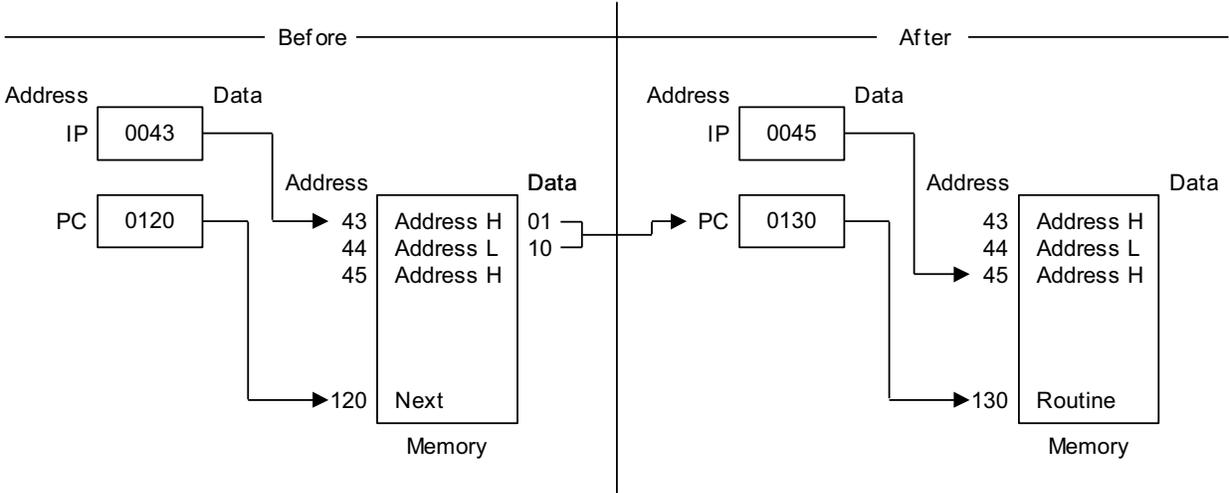

Figure 53. How to Use the NEXT Instruction
**Example**        Figure 53 shows an example of how to use the NEXT instruction.